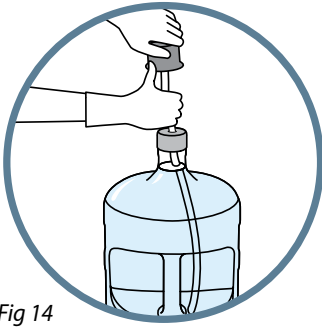

Fig 14
16. Wearing gloves, carefully unpack the new bottle adaptor. Pull the adaptor tube to straighten (Fig 14) and insert it into a new water bottle.